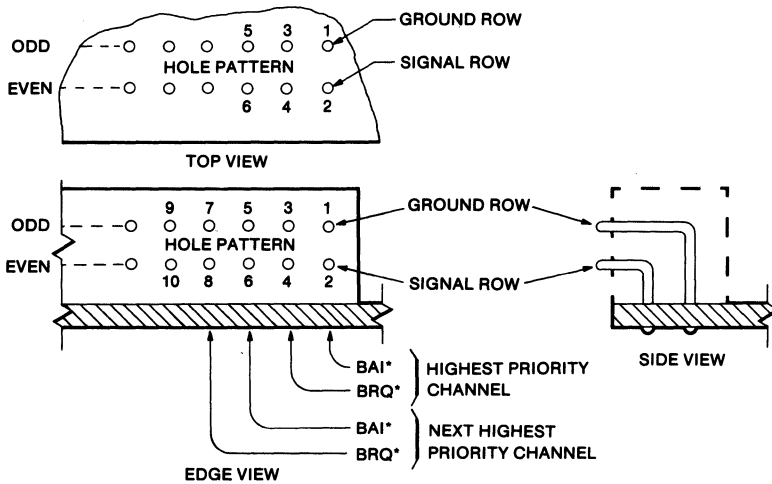

Figure 2-8. Recommended Connector Arrangement for Priority Resolver Cards for Parallel Priority Bus Control
- Connector layout for priority resolved cards is as shown in figure 2-8. The ground pins are the top row and the signal pins are the bottom row.